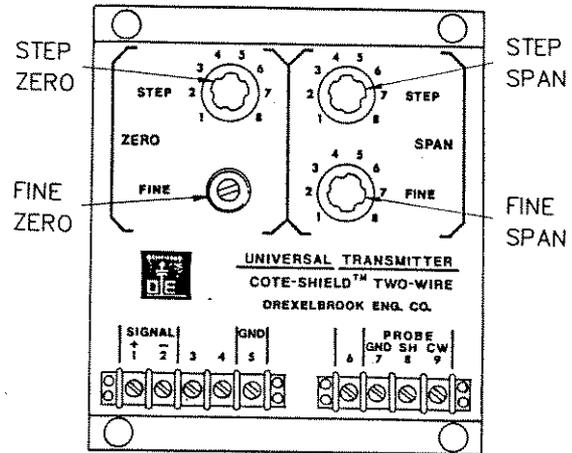

Figure 6-2
clockwise (CW) position. Put the Step Zero in Position #1 (most sensitive position). See Figure 6-2.